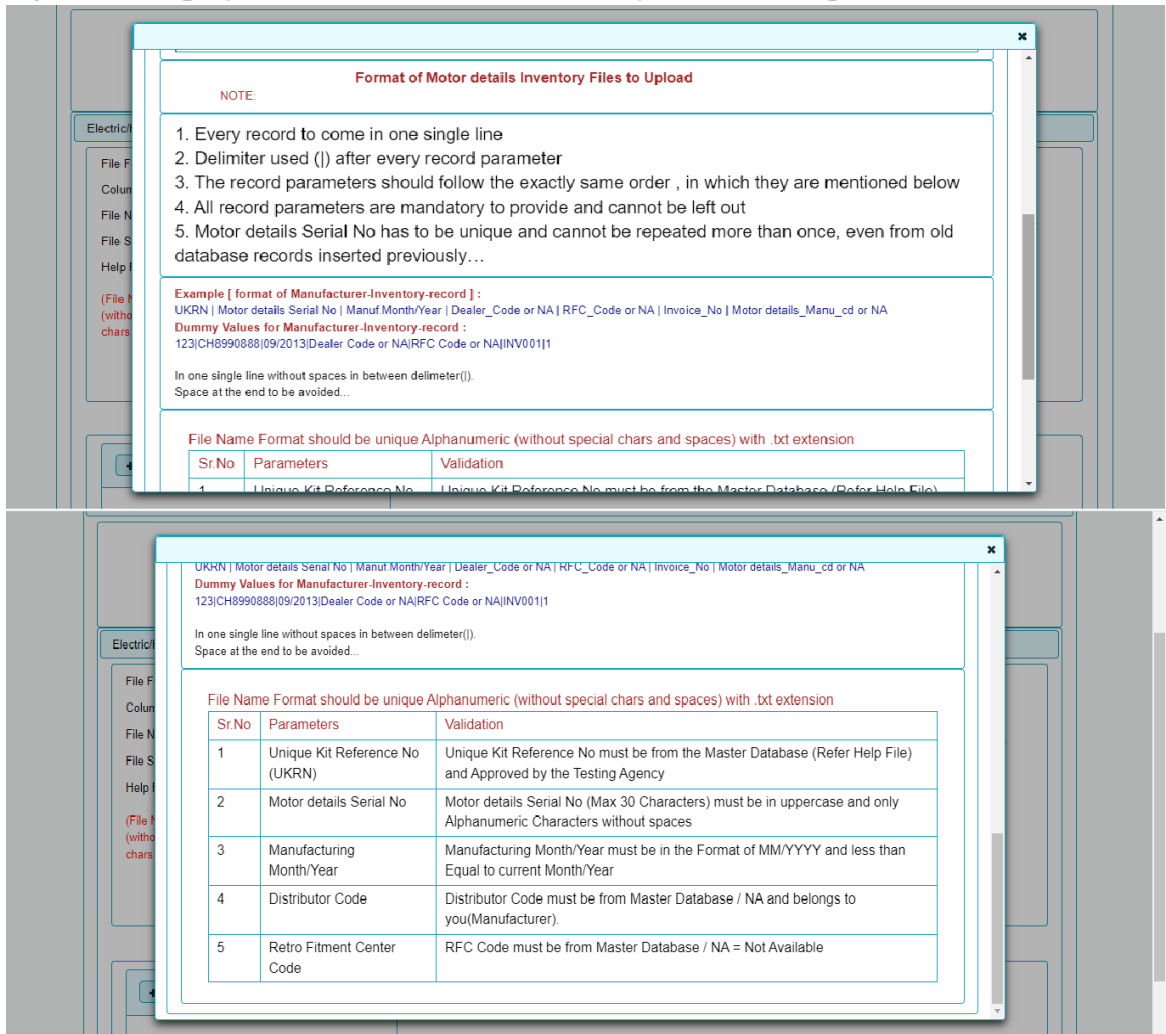

Figure 22: Window after clicking “Help for File Upload”, which shows format of inventory file to be uploaded
34. Click on the link “Help for File Upload”. A new dialogue box opens up, as shown in Figure 22.
36. Figure 22 displays the format of the inventory file to be uploaded.